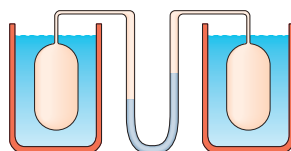

Figure 18-30 Problem 3.
•3 A gas thermometer is constructed of two gas-containing bulbs, each in a water bath, as shown in Fig. 18-30. The pressure difference between the two bulbs is measured by a mercury manometer as shown. Appropriate reservoirs, not shown in the diagram, maintain constant gas volume in the two bulbs. There is no difference in pressure when both baths are at the triple point of water. The pressure difference is 120 torr when one bath is at the triple point and the other is at the boiling point of water. It is 90.0 torr when one bath is at the triple point and the other is at an unknown temperature to be measured. What is the unknown temperature?